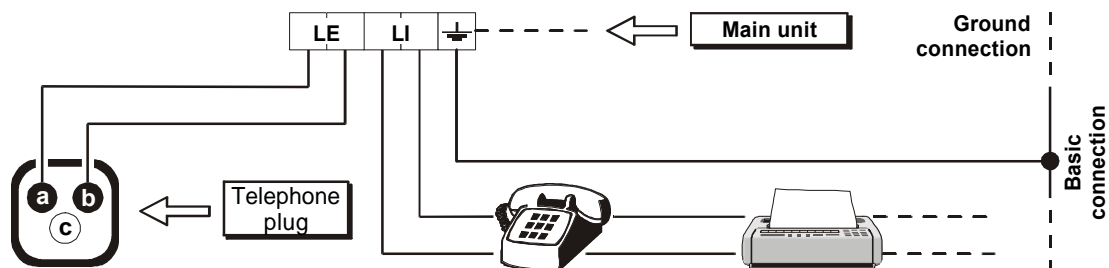

Figure 20 Telephone line connection
- + Refer to the schematic diagram for fire sensor connection (fig.20).